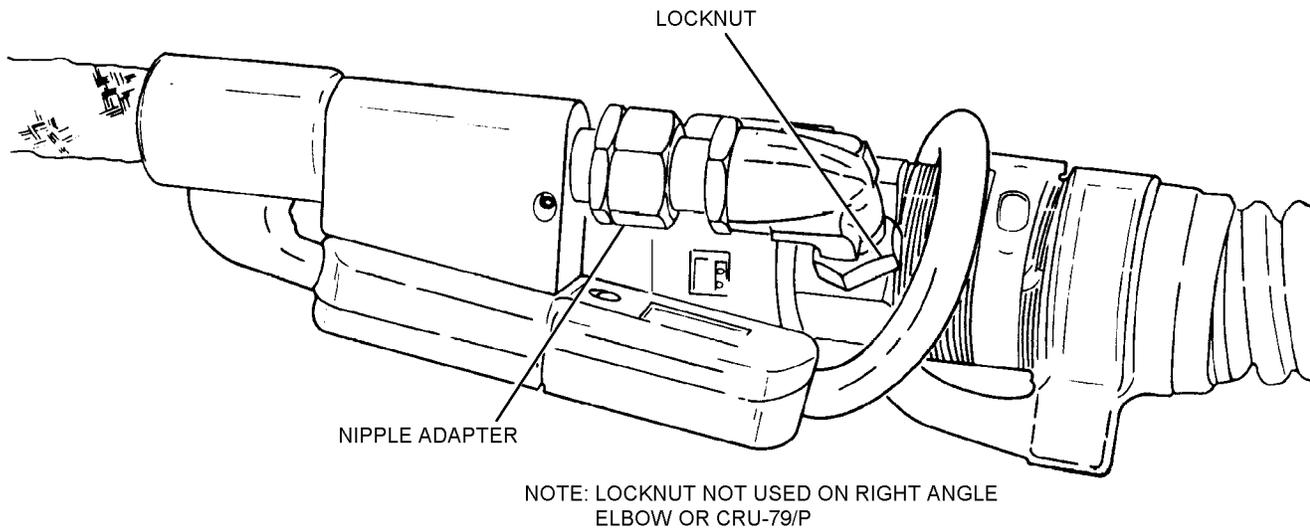

Figure 6-10. Assembly of Hoses to the CRU-79/P Series Regulator
6. Thread one locknut onto regulator-to-seat kit hose connection. Teflon face on locknut shall face toward female port of adapter assembly. See figure 6-10.
7. (CRU-79/P series regulators without installed 90° elbow only) Thread one locknut onto male-threaded portion of 90° elbow. Teflon face of locknut shall face toward the regulator during installation of the 90° elbow. See figure 6-10.
8. (CRU-79/P series regulators without installed 90° elbow only) Thread 90° elbow into inlet port of regulator hand tight. Using a wrench tighten 90° elbow a minimum of one full turn. An additional one turn can be used as required until 90° elbow is tight and orientation of female port of the fitting is pointing the opposite direction of the regulator outlet. Tighten locknut until flush with regulator body, once flush tighten locknut an additional one quarter of a turn until tight. See figure 6-10.
9. (All CRU-79/P series regulators) Thread one locknut onto male-threaded portion of nipple adapter coupling (see figure 6-10). Teflon face on locknut shall face toward 90° elbow during installation. Thread nipple adapter coupling into 90° elbow hand tight. Using a wrench tighten adapter coupling one turn. An additional one turn can be used if required until adapter is tight. Tighten locknut until flush with 90° elbow, once locknut is flush tighten locknut an additional one quarter of a turn or until tight. See figure 6-10.
10. Thread regulator-to-seat-kit hose into nipple adapter a minimum of two full turns until tight and proper orientation is achieved (see figure 6-10). Tighten locknut until locknut is flush with the nipple adapter, once locknut is flush with nipple adapter tighten locknut an additional one quarter of a turn or until tight.